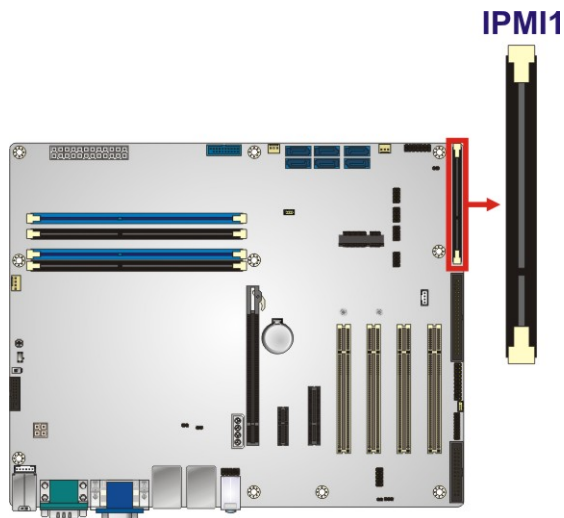

Figure 3-14: iRIS Module Slot Location
- CN Location:** See **Figure 3-14**